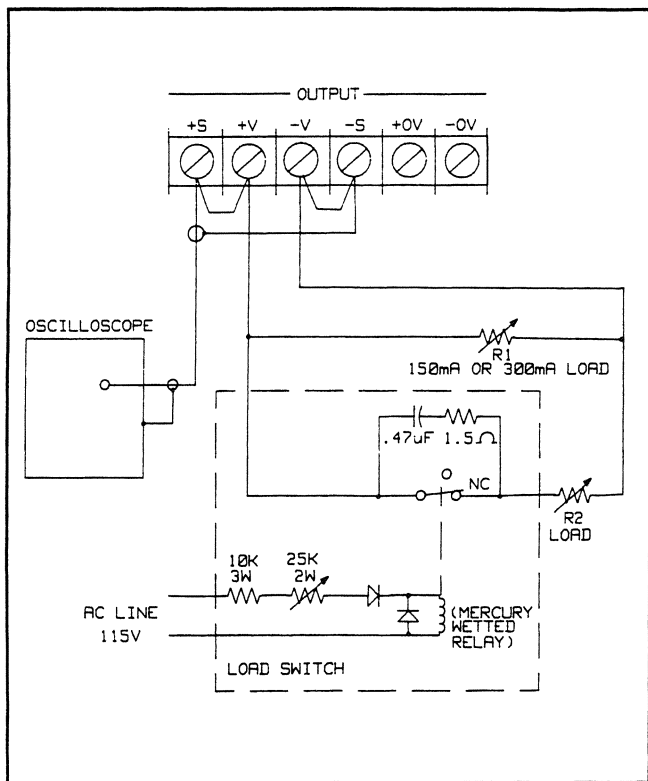

Figure 3-8. Transient Recovery Time Test Setup
- a. Turn off the supply and connect the output to be tested as shown in Figure 3-8.